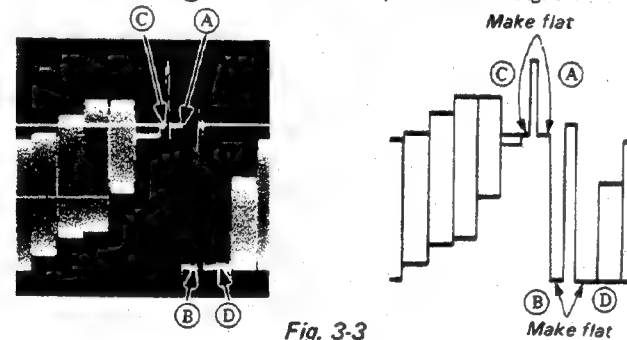

Fig. 3-3
Adjust RV1 of BH board so that the (C) (0 IRE level) coincides with (A) (Black level) as shown in Fig. 3-3.
10. Adjust RV3 of BH board so that the (D) (100 IRE level) coincides with (B) (100% white level) as shown in Fig. 3-3.